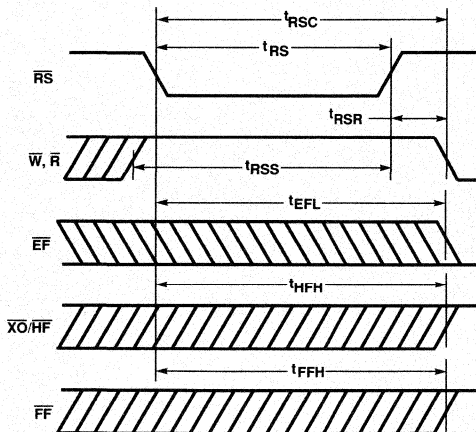

Figure 2. Reset Timing
Upon power up, the FIFO must be initialized with a Reset cycle. (See Figure 2.) The states of XI and FL are used during the reset cycle to determine the FIFO's mode of operation, as shown in Tables 1 and 2. For a valid reset cycle to occur, both the Read ( $\overline{R}$ ) and Write ( $\overline{W}$ ) signals must be HIGH  $t_{RSS}$  prior to and  $t_{RSR}$  after the rising edge of Reset ( $\overline{RS}$ ). The reset cycle initializes the FIFO to an empty condition, signified by the Empty Flag ( $\overline{EF}$ ) being LOW, active, and both the Half-Full (HF) and Full Flag (FF) being HIGH, inactive.